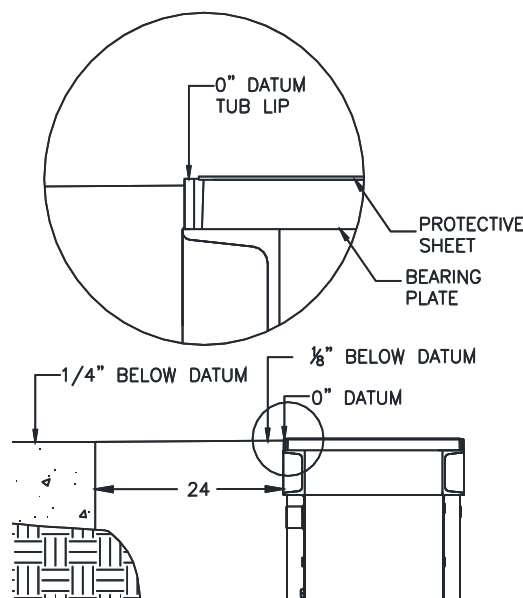

Fig 8- Elevation Dimension
5. Run the 2" PVC chase from the control area and join to the lift / containment assembly. Fill joints with silicone. All PVC joints must be leak proof. The power unit end of the chase should be finished as shown in **Figure 8** to prevent contamination from entering the chase, while allowing the system to breathe.
10. Install rebar to tie in with the rest of the flooring. While taking care not to run concrete on top of the lift / containment assembly, pour the remainder of the concrete. See **Note** and **Fig 8**.